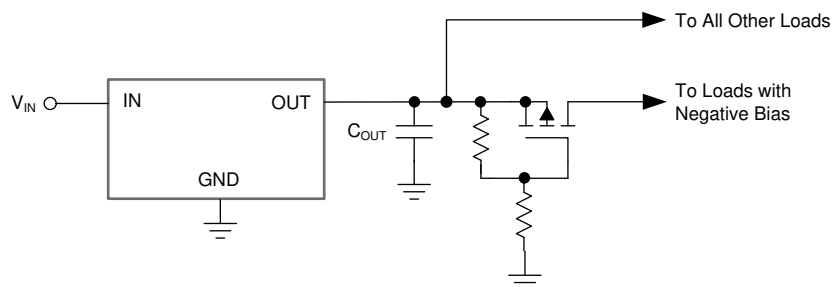

Figure 8-11. PFET to Isolate the Output from the Load
- Use a PFET to isolate the output of the device from the load causing the negative bias when the device is off, as shown in Figure 8-11.